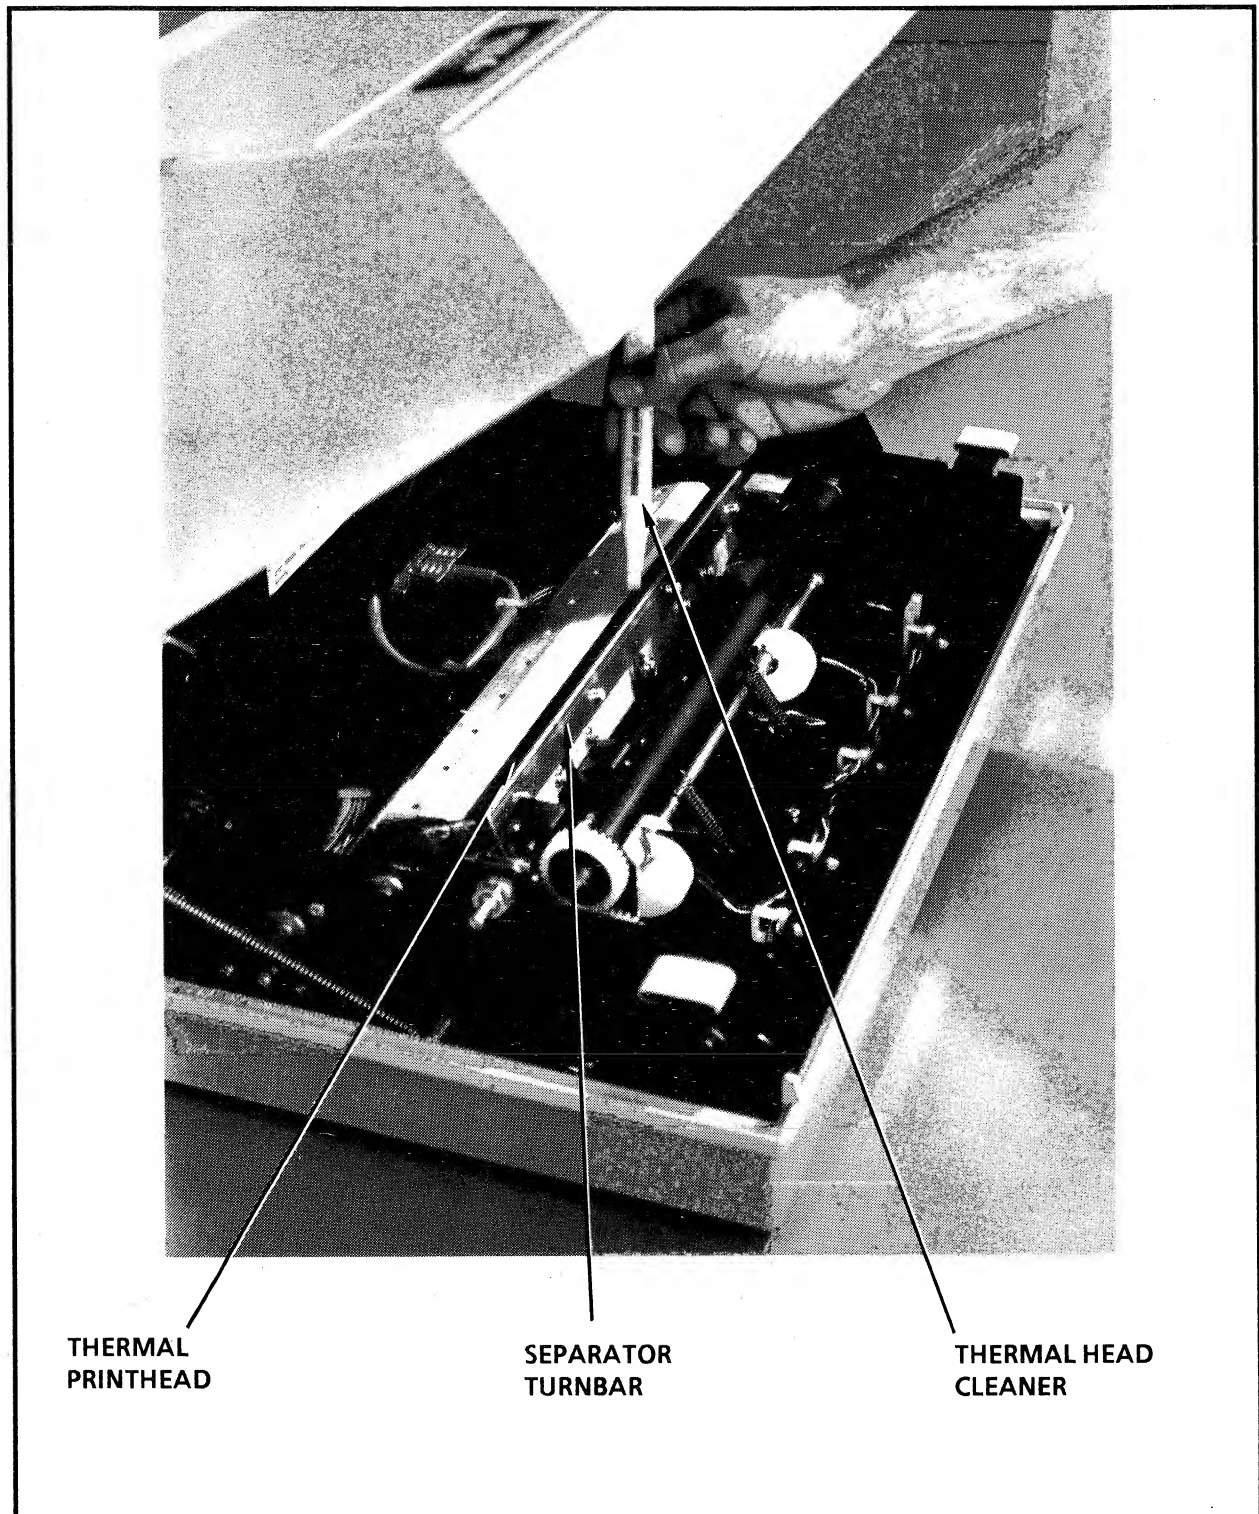

Figure 5-2. Cleaning the Thermal Printhead
Cleaning the Separator Turnbar (shown in Figure 5-2)
1. Locate the separator turnbar (Figure 5-2).
Cleaning the Thermal Printhead (shown in Figure 5-2)